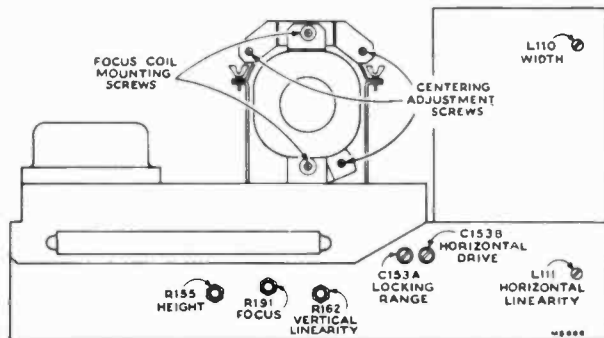

Figure 8—Rear Chassis Adjustments
**CENTERING ADJUSTMENT.**—No electrical centering controls are provided. Centering is obtained by mechanically orienting the focus coil with the three adjustment screws shown in Figure 8. Center the picture on the screen by adjustment of these screws. The focus coil should be approximately concentric around the neck of the kinescope to prevent curvature of the raster.
**FOCUS COIL ADJUSTMENTS.**—If, after making the centering adjustments in the above paragraph, a corner of the picture is shadowed, it will be necessary to loosen the focus coil mounting screws (shown in Figure 8) and change the position of the coil to eliminate the shadow. Recenter the picture by adjustment of the centering screws.